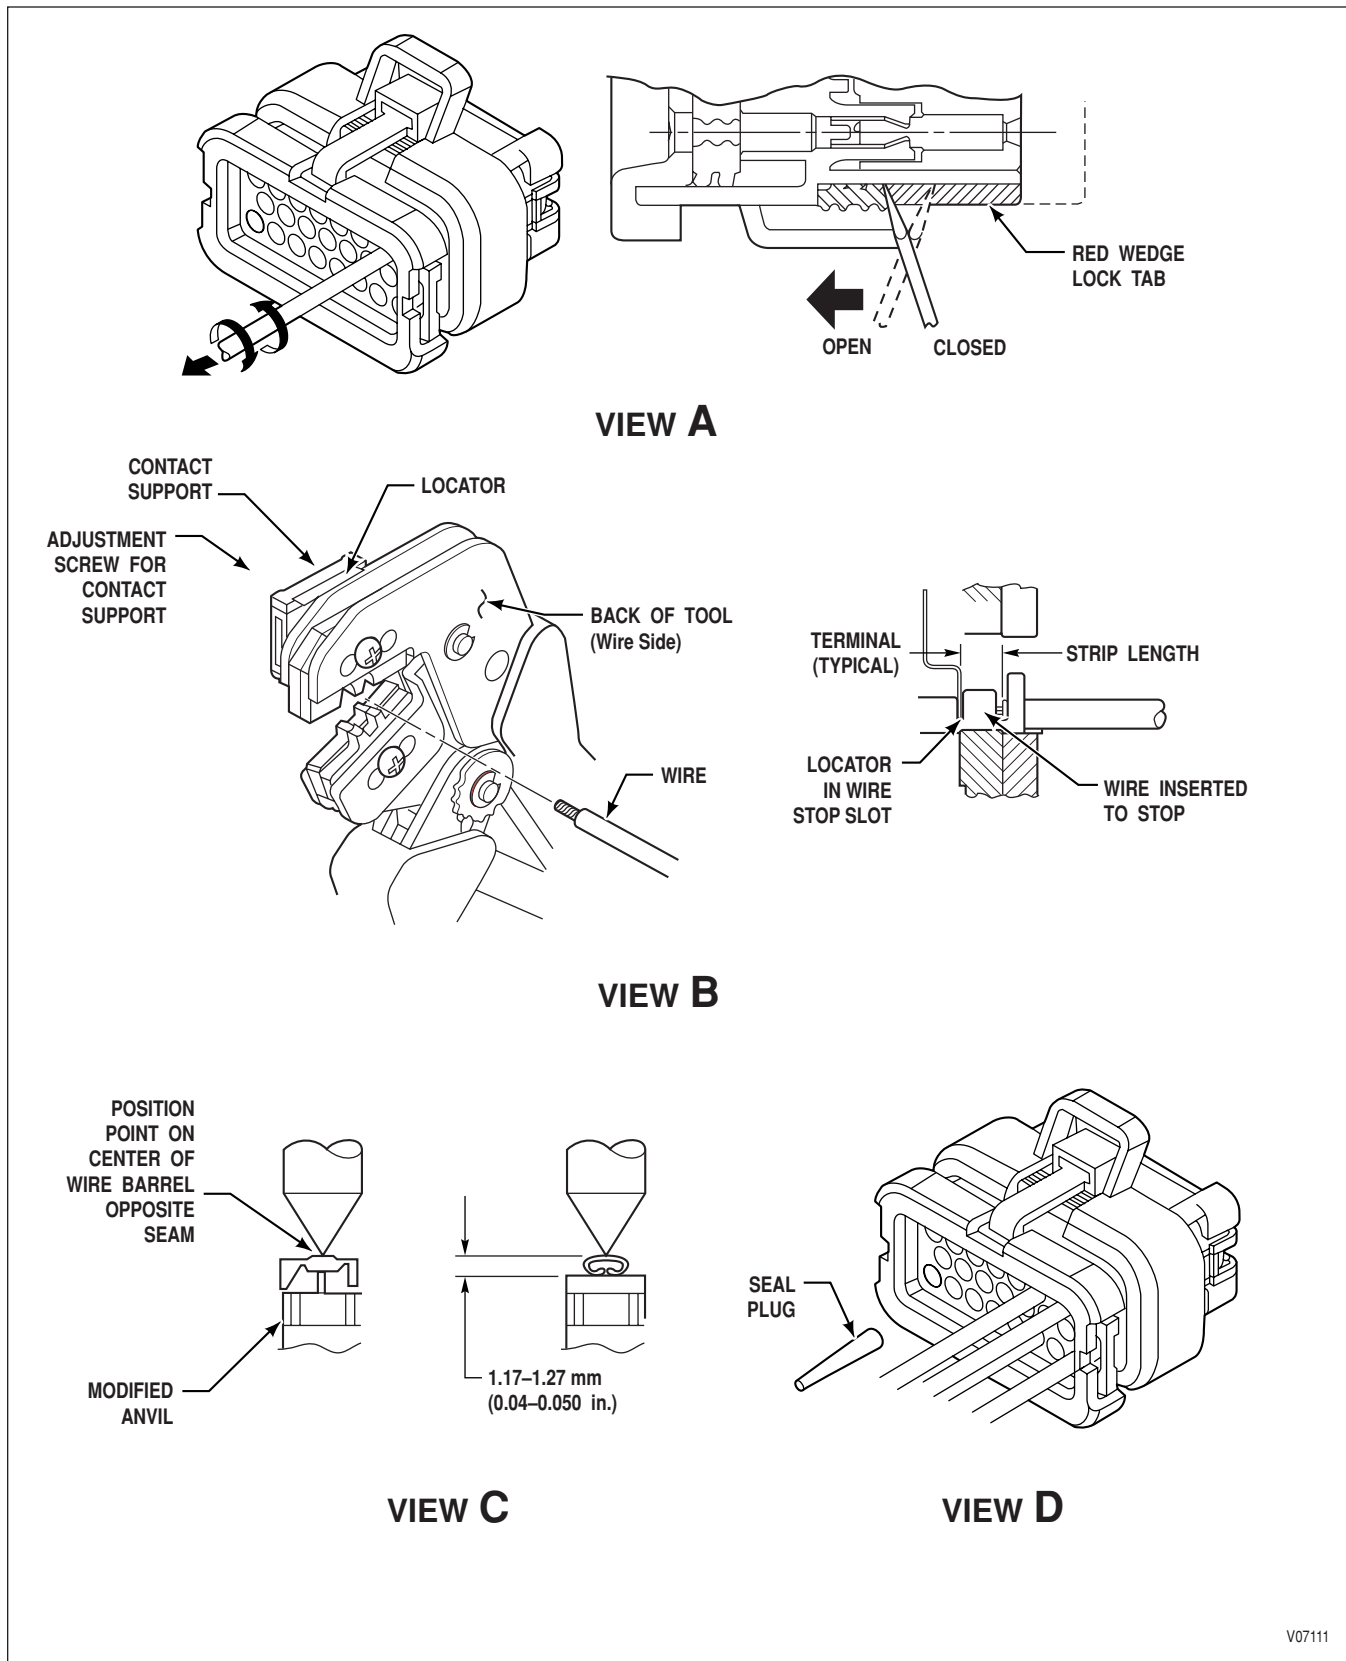

Figure E-14. AMP MATE-N-LOK II Connector (Compact Shift Selector)
#### B. Terminal Removal (Figure E-14, View A)
**APPENDIX E — CONNECTOR PART NUMBERS, TERMINAL PART NUMBERS, TOOL PART NUMBERS, AND REPAIR INSTRUCTIONS****C. Terminal Support Adjustment (Figure E-14, View B)**
**D. Terminal Crimping Using AMP PRO-CRIMPER II (Figure E-14, View B)**
### D. Terminal Crimping Using AMP PRO-CRIMPER II (Figure E-14, View B) (*cont'd*)
8. Be sure the finished crimp meets the size requirements shown in Figure E-14, View C.
1. Be sure the red wedge lock is in the open position (Figure E-14, View A).
**NOTE:** *As the terminal is pushed through the wire seal it perforates the diaphragm on the seal. If an unused location is accidentally perforated, install a P/N 770678-1 Seal Plug (large end first) as shown in Figure E-14, View D.*